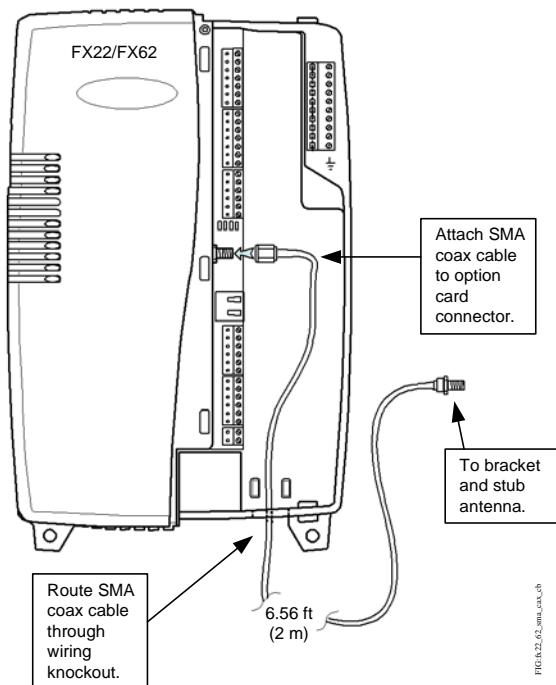

Figure 7: SMA Coax Cable Routed Through Knockout
1. Route the included SMA coax cable through the appropriate wiring knockout of the FX22/FX62 Supervisory Controller (top, bottom, or back), and attach the cable to the GPRS modem option card (see Figure 7).